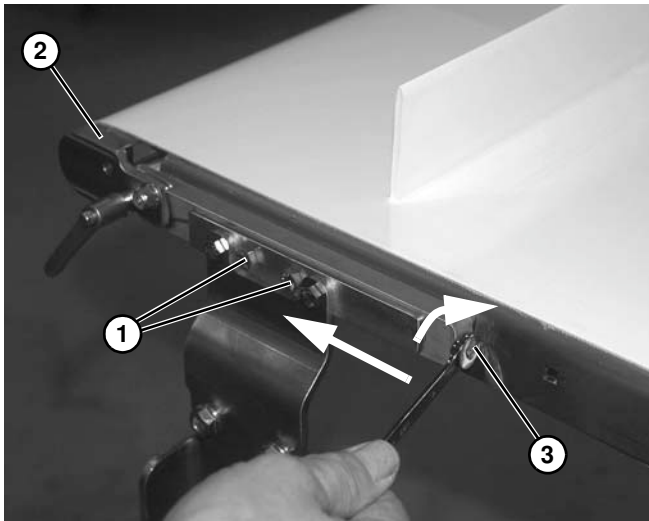

Figure 59
1. On tension end of the conveyor, loosen two screws (Figure 59, item 1) on one side of conveyor.
2. Extend idler spindle assembly (Figure 59, item 2) by turning screw (Figure 59, item 3) clockwise to apply tension belt or counterclockwise to remove tension on belt.
3. Tighten two screws (Figure 59, item 1) to secure idler spindle assembly (Figure 59, item 2).